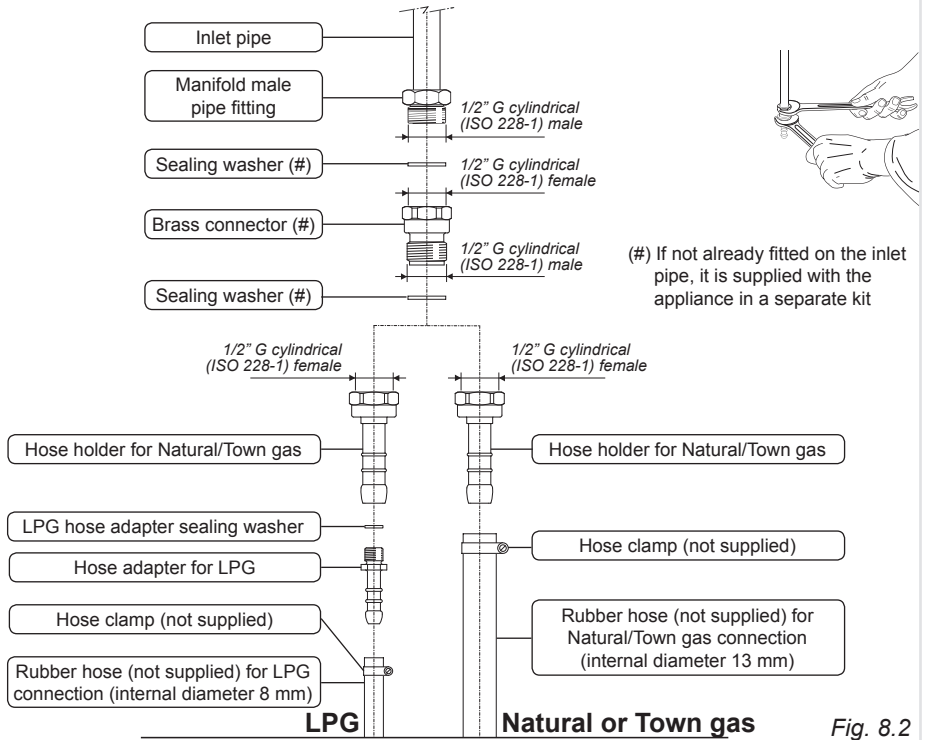

Fig. 8.2
1. If not already fitted, fit the Natural/Town gas hose holder on the inlet pipe, making sure that you place the sealing washer between them (as shown in Fig. 8.2).
1. If not already fitted, fit the LPG hose holder on the inlet pipe, making sure that you place the sealing washer between them (as shown in Fig. 8.2).
- use two spanners when fitting the parts (Fig. 8.2).